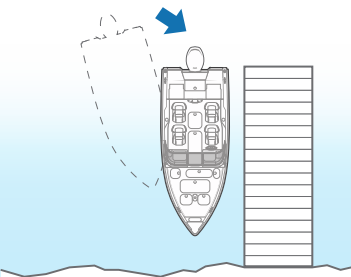

Fig. 22. Mooring in the absence of wind or current.
To tow another boat, use a strong towrope that has positive buoyancy. Always fasten the rope in such a manner that in the course of towing it is on the center axis of the boat (see figure 22). Start towing slowly, avoid jerking, and do not overload the engine. When towing a small boat, adjust the length of the towrope so that it floats along the downward slope of the wake. In narrow straits and at high waves, pull the boat closer to the transom to stabilize its movement. Firmly secure all equipment in the boat in case of turn turtle.
- Ask another person on board to observe the skier and inform the driver about the skier's hand signals (Fig. 22). The driver must fully pay attention to handling the boat and to the water area in front;